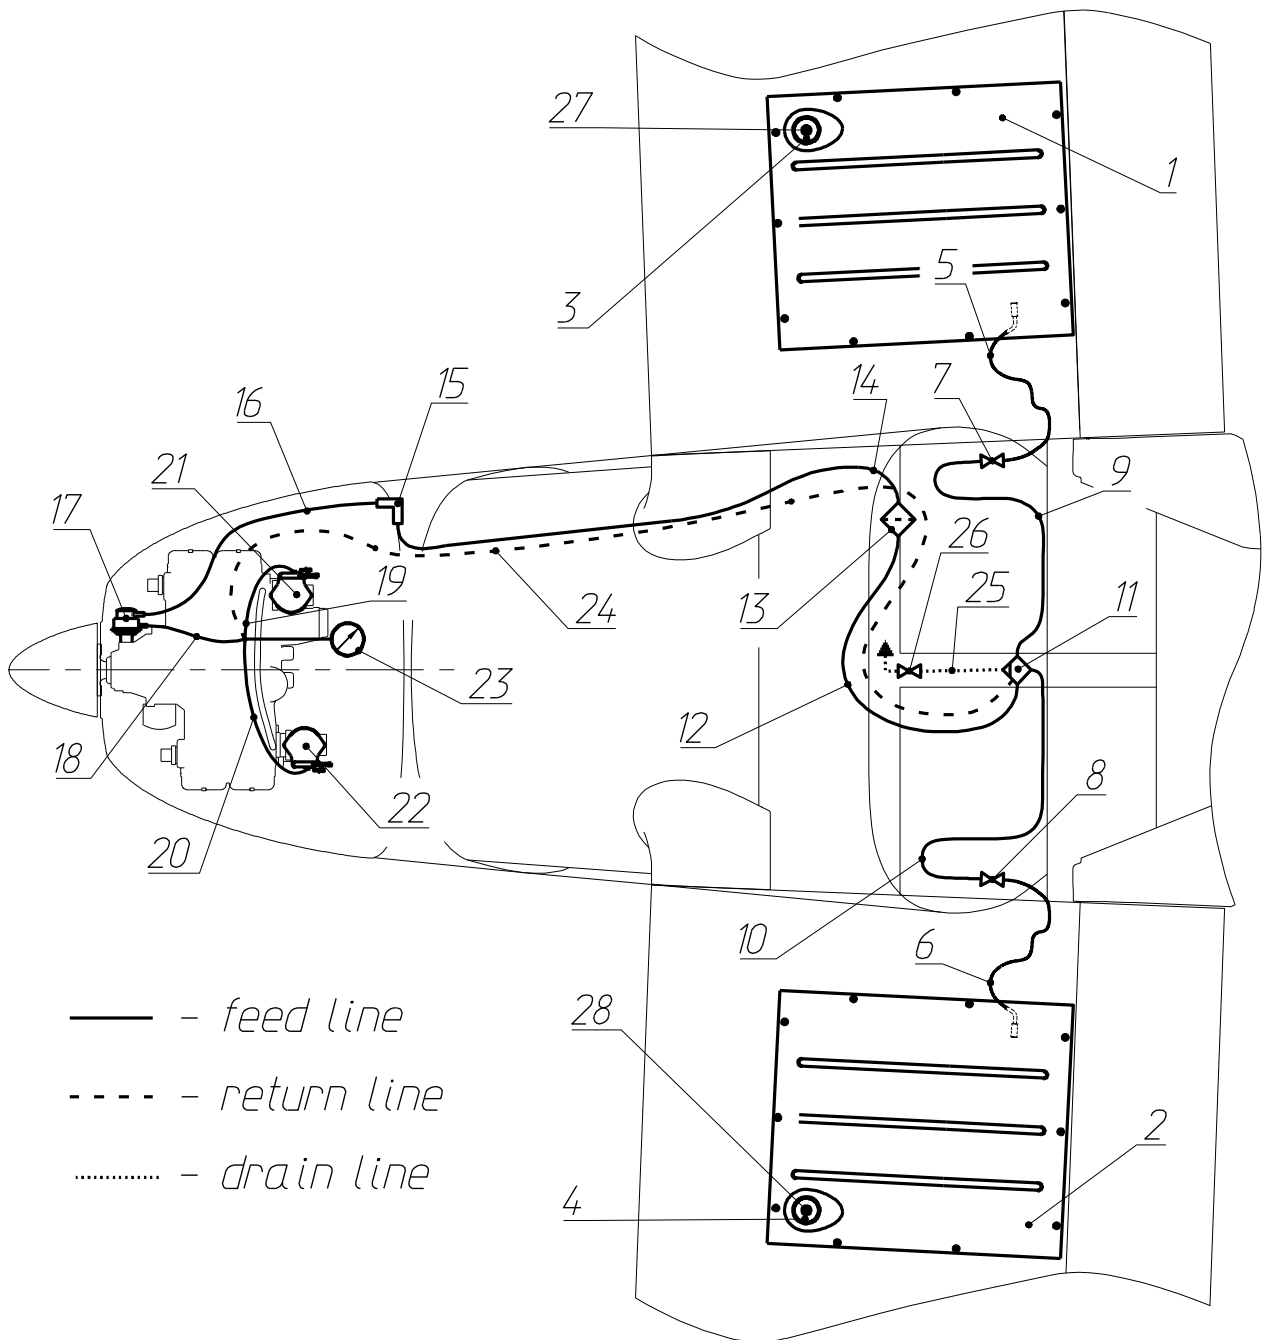

Fig. 3. Fuel system schematic
The fuel system (see **Fig. 3**) includes two wing fuel tanks (1,2), fuel lines (5,6,9,10,12,14,16,18,19,20,), two shut-off valves (7,8), fuel sediment collector (11), fuel filter (13), fuel pump (17), return line (24), drain line (25) and drain valve (25). The fuel tanks (11.9 (15.05) US gal each) are located at the wing root between the spar and aft web. The fuel inlet 3(4) is located at the front outboard corner of the tank. The inlet cover has vent fitting 27(28) connecting the tank volume free of fuel to the atmosphere. The fuel shut-off valves (7,8) are located on the vertical beams of the frame No.3, on the left and right sides respectively. The shut-off valve is open when its handle is set vertically and closed when the handle is set horizontally. The left and right fuel tank is connected with the fuel lines to the left and right fuel shut-off valve respectively. Further two fuel lines are joined into a single one with the fuel sediment collector (11). The fuel sediment collector is located near the web of the frame No.4 at its bottom part. The top outlet of the fuel sediment collector is connected to the fuel filter (13) located on the right side behind the main landing gear beam. The fuel filter can be inspected visually through a window in the protecting cover of the aileron control cables. The bottom outlet of the fuel sediment collector is connected with a fuel line (25) to the drain valve (26), located between the frame No.4 and the main landing gear beam. The drain valve allows draining fuel through the hole in the bottom rear panel of fuselage. The drain valve itself is located under the protecting cover separating it from the cables of the longitudinal and directional flight controls. The valve handle is accessible outside of the fuselage. After the fuel filter the fuel line (14) runs through the main landing gear beam, seat beam along the right-hand side of fuselage to the firewall where it is connected with a 90° bulkhead fitting (15), that is passing through the hole in the firewall, to the fuel line of the engine (16) and is connected to the inlet of the fuel pump (17) located on the right-hand side of the engine gearbox. The pump outlet is connected with the fuel lines (18,19,20) to the carburetors (21, 22). The excessive fuel is returned through the line (24) to the sediment collector (11). The fuel system optionally may contain also fuel pressure sensor (23).